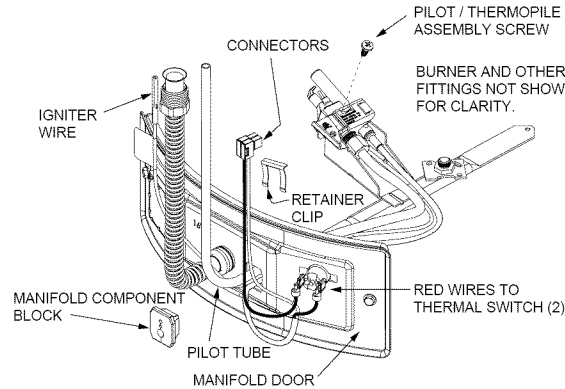

**FIGURE 34.**
1. Take off the burner by removing the two (2) screws located underneath the burner. **IMPORTANT:** DO NOT remove the orifice.
2. Check the burner to see if it is dirty or clogged. The burner may be cleaned with soap and hot water (Figure 34).
8. Using the pilot/thermopile assembly screw removed earlier reattach the new pilot/thermopile assembly. Reattach the burner to the manifold using the screws removed earlier. NOTE: make sure the burner scoop is oriented to the pilot side of the manifold tube (Figure 34).